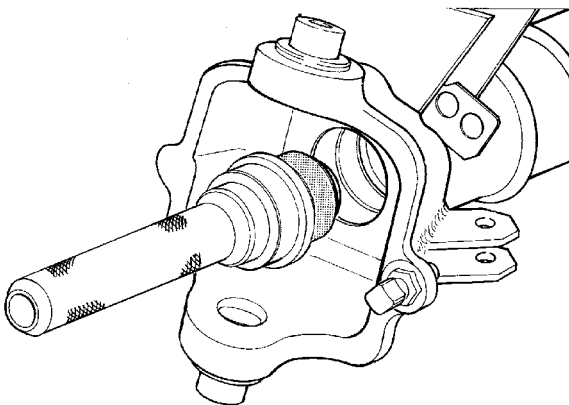

Figure 252 - Needle Bearing - Installation
- b. Coat the needle bearing with a lubricant (Molycote or equivalent) and install the needle bearing into the axle housing with the handle and replacer (Table 2, Items 6 and 29). Press the bearing in until it abuts against the inner circlip (Fig 252).